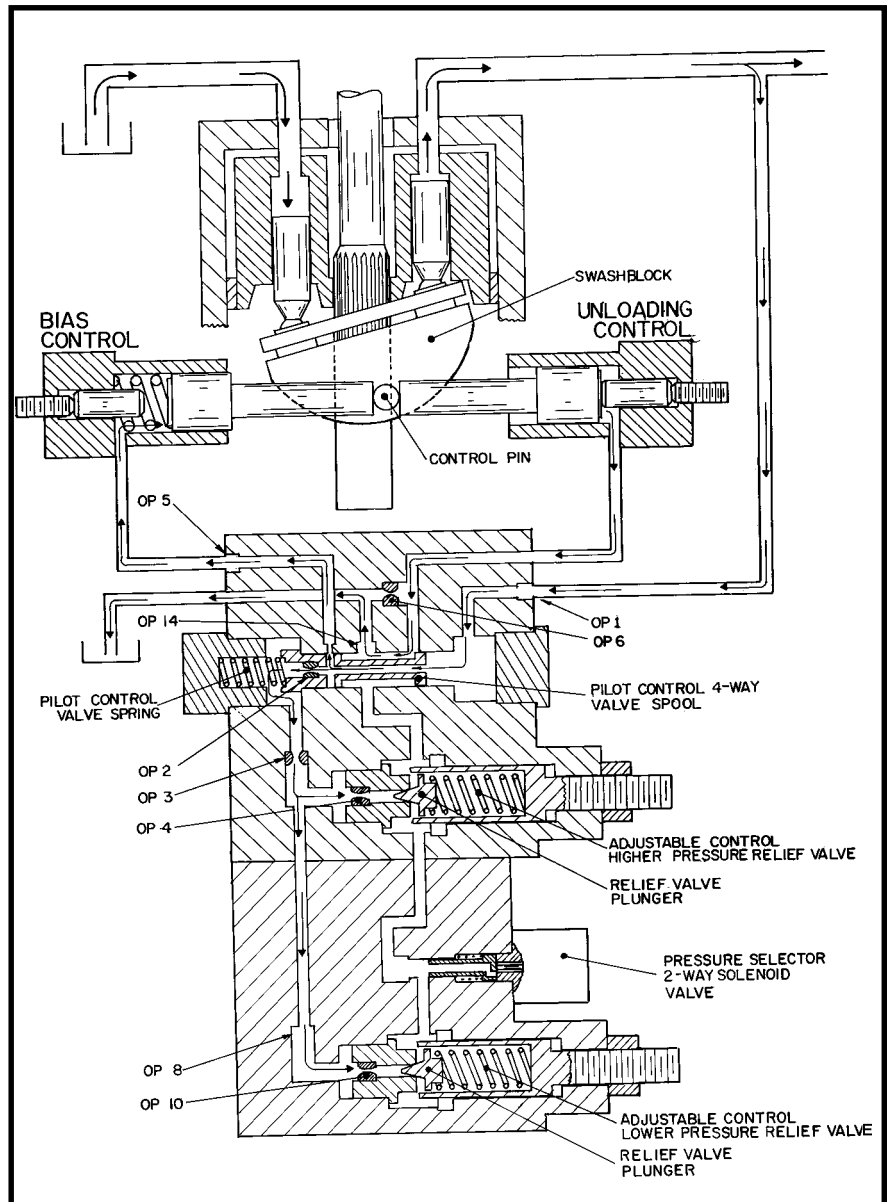
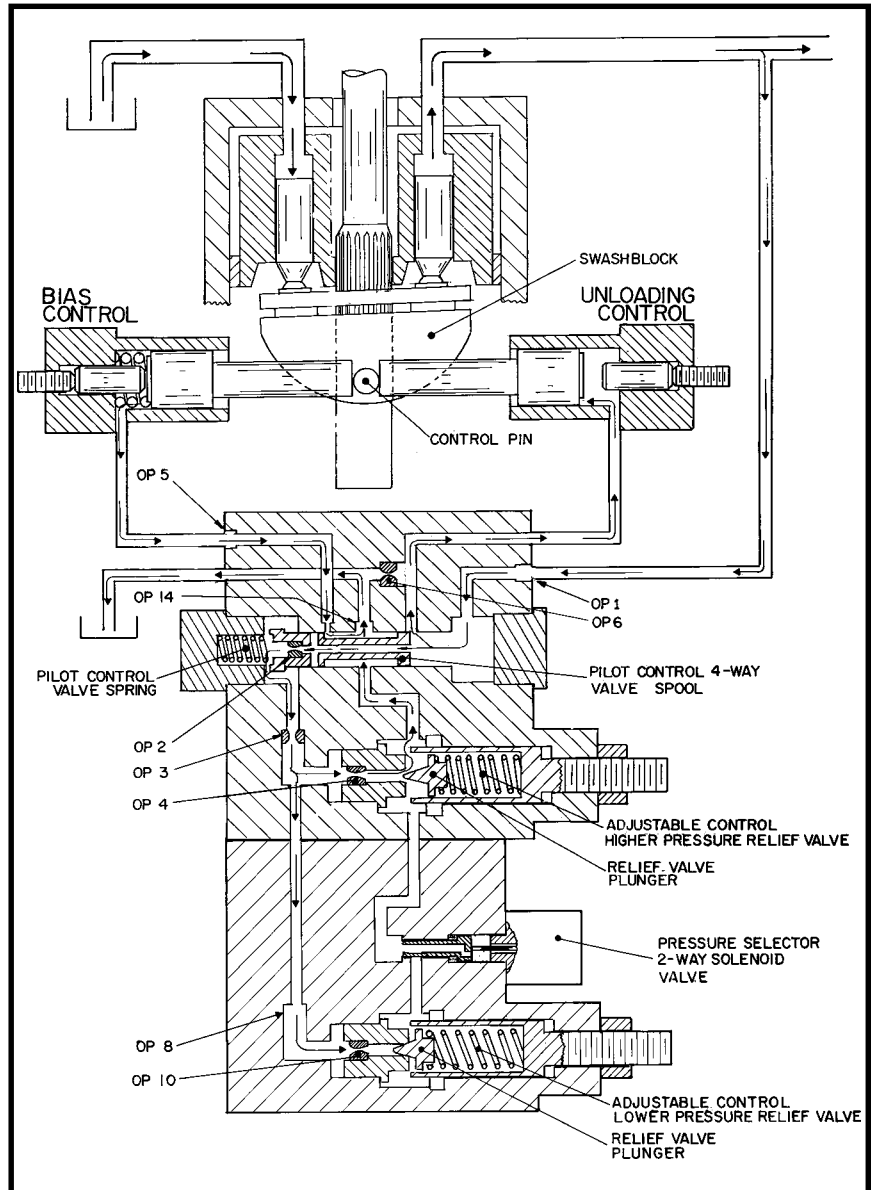

Figure 1. Raising Pump Pressure (5V-12128-L sh. 1).
Figure 3. Compensating Pump Delivery at Higher Pressure (5V-12128-L).
A. STARTING (See Figure 1 & 4).
D. HOLDING PRESSURE (See Figures 1 & 4).
If the system pressure drops below preset compensating pressure (in the event of increased leakage of system components and/or opening of system valves etc.), the control relief valve conical plunger seats (stopping flow to drain) pressure (and force) on pilot control valve spool is (again) balanced, pilot control valve spring returns spool to original position (as shown in figures 1 and 4), swashblock position shifts, and pump is "stroked" for increased (towards full) delivery until the control relief valve preset pressure is reached again.
E. COMPENSATING (pump unloading) AT HIGHER PRESSURE (See Figures 3 & 6).
Energizing the **pressure selector** two-way solenoid **valve** blocks flow from the lower pressure relief valve (effectively closing or seating its plunger) and pressure rises as in section B and figure 1. When the pressure on the cone shaped plunger of the **higher set pressure relief valve** (See figures 3 and 6), the cone shaped plunger moves off its seat and allows flow through that valve, through drain line to pump case and drain. Again, the pressure is no longer acting on the spring end of the pilot control valve spool. Due to the orifice in **Port OP2**, there is still pressure on the other end of the pilot control valve spool. This differential pressure forces the pilot control spool to shift and compress the pilot control valve spring. The pilot control valve spool now allows pump delivery (and resultant pressure) to flow to the unloading control piston. The pilot control valve spool simultaneously drains the fluid from behind the bias control piston.